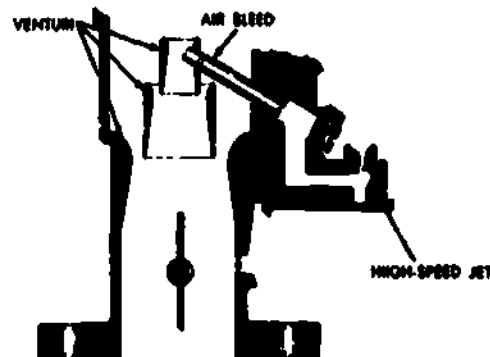

Fig 1-27. High-speed circuit.
- (3) The high-speed circuit (fig 1-27). The high-speed circuit includes the venturi, the main nozzle, and the high-speed jet. Usually more than one venturi is used in a carburetor, with one placed inside the other. Notice the three venturi in the illustration. The main nozzle is centered in the smallest venturi. Fuel passing from the carburetor bowl to the main nozzle flows through the high-speed jet. The hole in the jet is drilled to an exact size in order to meter the fuel flowing in the high-speed circuit (fig 1-27).